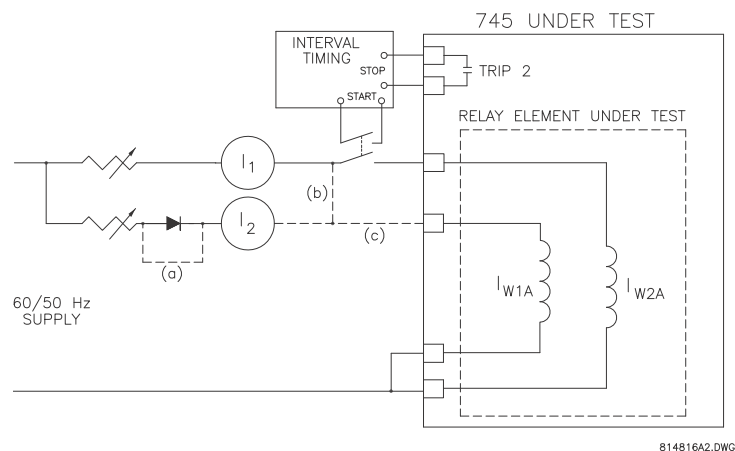

FIGURE 7-9: General test setup
- ▷ Using the setup shown in FIGURE 7-9: *General test setup* on page 7-25 and the Interval Timer enabled, set the current level to the desired value.
A simple verification the selected reset mode can be obtained using FIGURE 7-9: *General test setup* on page 7-25. The procedure consists of performing repetitive operating time measurements in quick succession. If the reset is selected for instantaneous, the operating time will always be equal to the nominal time derived from the selected curve. If the reset is selected as linear, the operating time will vary as a function of the time between successive application of the current signal. If performed at current multiples of 2 to 3 times the pickup level, the variations in operating time will be easier to detect.
To ensure that only the phase instantaneous overcurrent 1 element operates the trip relays (and any other output relays) selected by the logic, disable all protection features except phase instantaneous overcurrent 1. Use the general test setup shown in FIGURE 7-9: *General test setup* on page 7-25.
- ▷ Using a table like the one shown below, select three (3) or four (4) values of current multiples at which timing is to be measured.
- ▷ Using the setup in FIGURE 7-9: *General test setup* on page 7-25 and the interval timer enabled, set the current level to the desired value and apply suddenly by closing the double-pole switch.
A simple verification of the reset mode selected by **S4 ELEMENTS ▷ ▾ NEUTRAL OC ▷ W1 NTRL TIME OC ▷ ▾ W1 NEUTRAL TIME OC RESET** is obtained using the setup shown in FIGURE 7-9: *General test setup* on page 7-25. The test consists of repetitive operating time measurements in quick succession. If the reset is set for “Instantaneous”, the operating time is always equal to the nominal time derived from the selected curve. If the reset is set as “Linear”, the operating time varies as a function of the time between successive applications of current. The variations in operating time are easier to detect if this test is performed at current multiples of 2 to 3 times the pickup level.